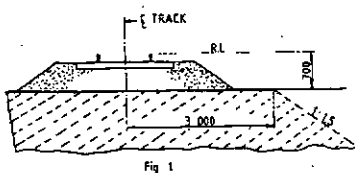

Fig 1
9.1 Unless otherwise approved by the Technical Officer any excavation adjacent to a railway line shall not encroach on the hatched area shown in Figure 1.